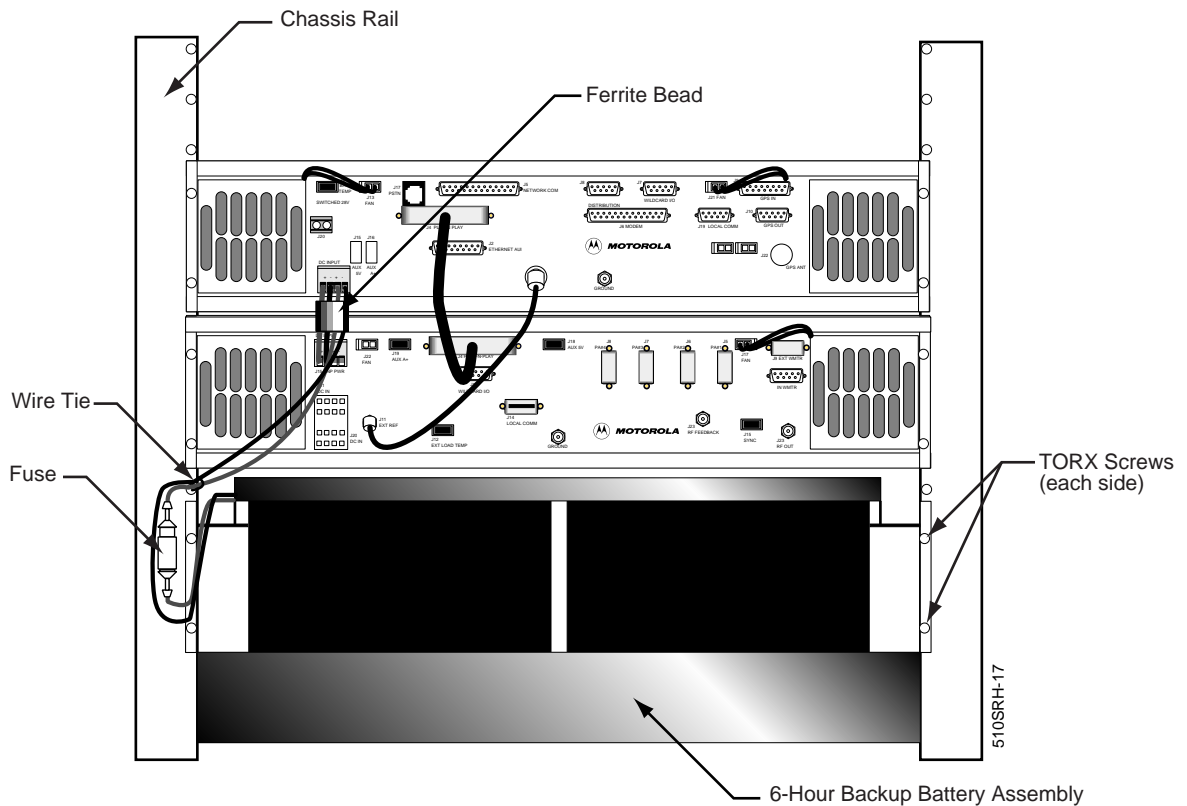

Figure 6-18: Battery Backup Assembly
5. Remove the wire tie that secures the wires to the chassis (see Figure 6-18).
4. Align the bracket holes on the battery assembly with the chassis holes and install the four screws removed in paragraph, "Battery Removal", Step 6 (see Figure 6-18).
7. Anchor the wires to the chassis rail using a wire tie (see Figure 6-18).